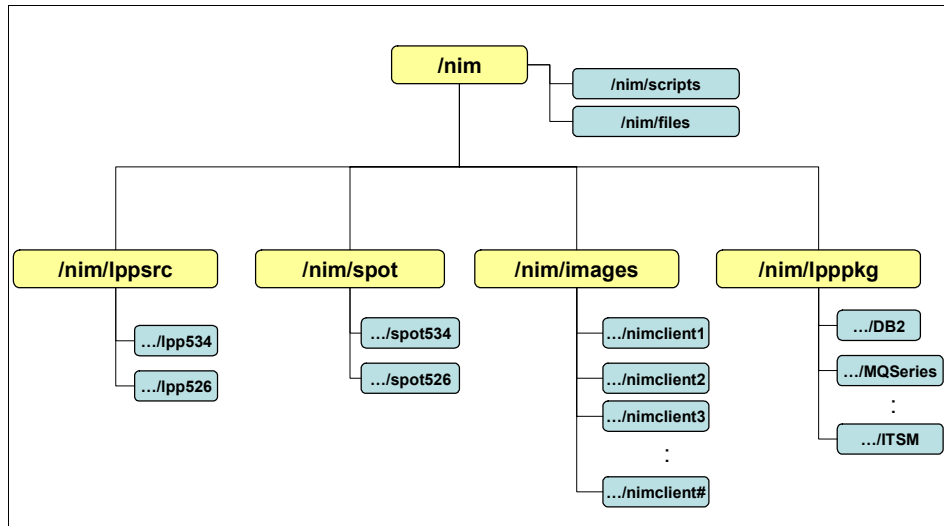

Figure 2-7 Alternative NIM directory structure
- The second structural suggestion, shown in Figure 2-7 on page 49, has a different structure: there is one file system for the lpp_source resources and one for the SPOT resources, each of them containing the different AIX Maintenance Levels or Technology Levels.